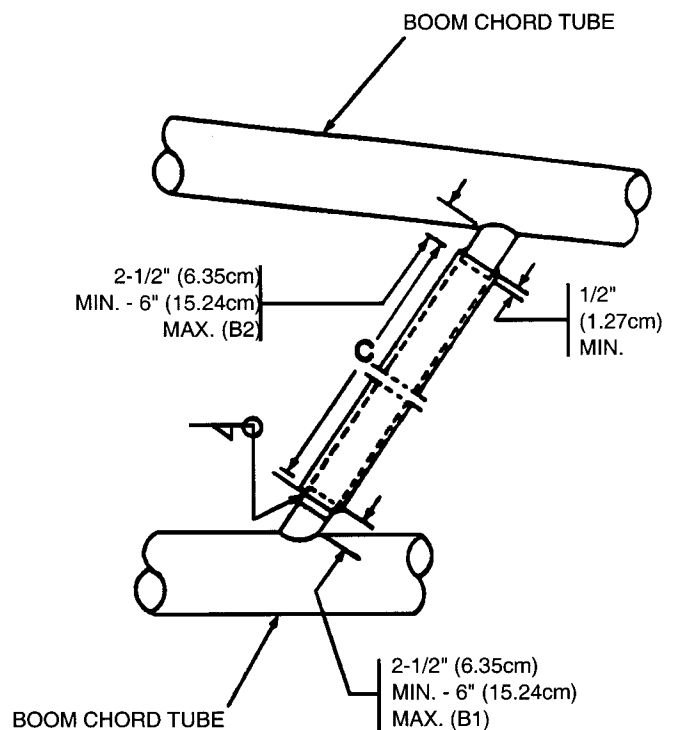

FIGURE 1
2. Saw off the entire damaged portion of the lacing. The absolute minimum length of undamaged lacing is 2-1/2" (6.35cm); the maximum length is 6" (15.24cm) (See Figure 1, B1 and B2). You must contact the Customer Service Department if welding is to be performed closer than 2" (5.08cm) to the chords.
4. Select the required size repair tube from Table A. The repair tube length must be 1" (2.54cm) longer than dimension "C" giving a 1/2" (12.70mm) overlap on each stub. (See Figure 1).
7. When welding, use a fillet weld all around both ends. Use an E-7018 (ACC 826840) electrode. (See Figure 1).